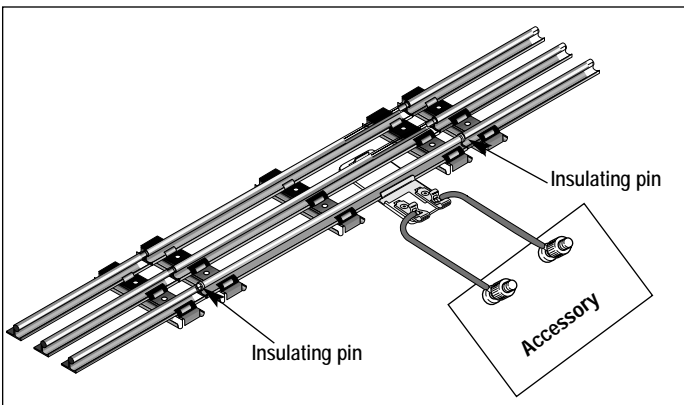

Figure 1. Variable voltage (track power) connections
**A**s illustrated in Figure 1, it is possible to power your accessory through the track. Because the accessory will operate at the same voltage applied to the track, you must use your controller/transformer to vary the voltage.